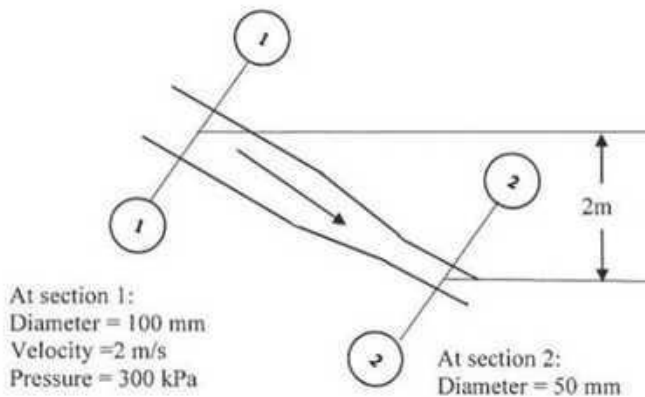

Figure- 6
- 4.(a) Consider the drag force  $F_D$  exerted on a sphere as it moves through a viscous liquid. Certainly, the size of the sphere must influence the drag force. Also, the velocity of the sphere must be important. The fluid properties involved are the density  $\rho$  and the viscosity  $\mu$ . Derive an expression for the drag force on the sphere by Buckingham's  $\pi$  Method. (13)
- (b) Distinguish between cohesion and adhesion. (2)
- (c) Water flows from section 1 to section 2 in the pipe shown in Figure- 6. Determine the velocity of fluid flow and pressure at section 2. Assume the total head loss from section 1 to section 2 is 3.0 m. (10)